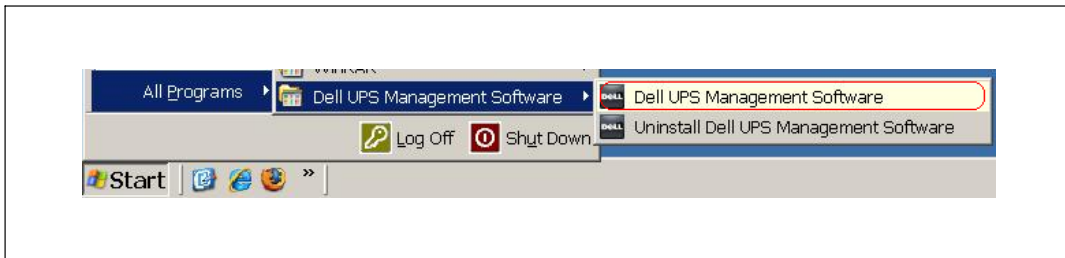

Figure 19. Starting the Tray Icon and Agent
- Select **Start menu > All Programs > Dell UPS Management Software** to start the Tray Icon and Agent (see Figure 19).